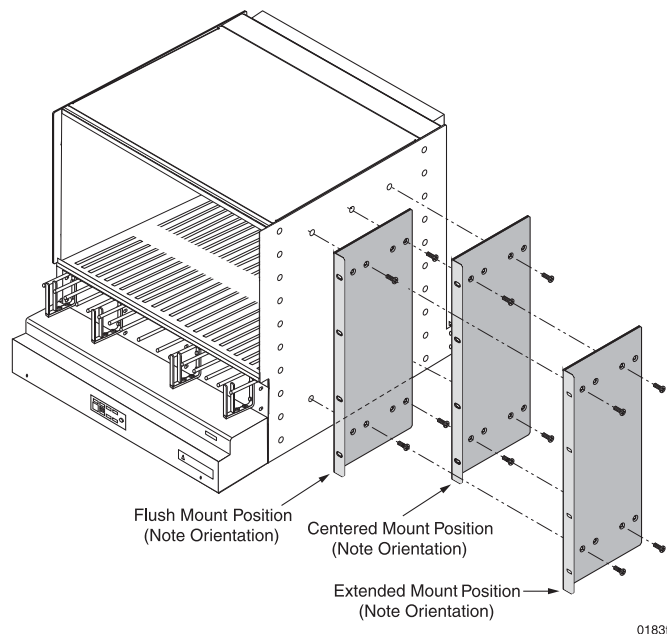

Figure 3 Options for Mounting the Chassis
1. Position a mounting bracket against one side of the chassis, lining up four of the screw holes in the bracket with four of the screw holes in the side of the chassis, according to the mounting option you have selected. The proper orientation for installing the brackets in Figure 3.